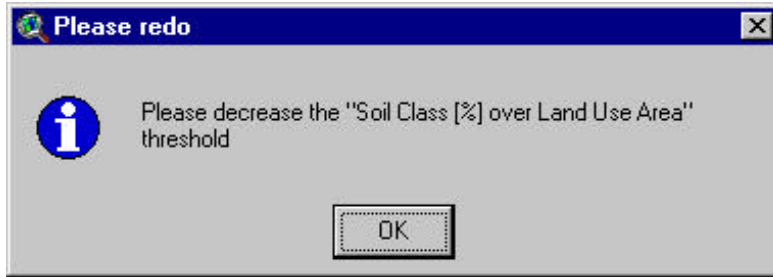

Figure 6.55
5. If the **Multiple Hydrologic Response Units** option was selected and the soil class threshold was set too high, a message dialog is displayed (Figure 6.55).